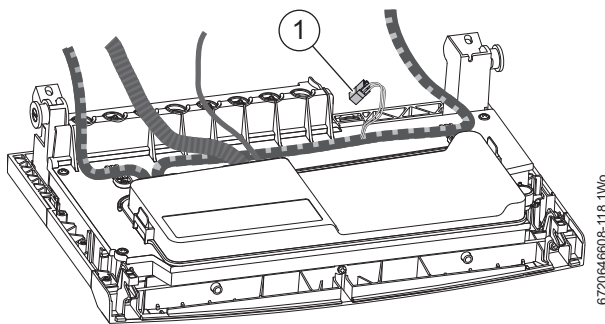

Fig. 27 Unused connector
**i** Refer to Figure 27. The connector (1) in the wiring harness is provided for the installation of the Domestic Hot Water Pre-Heat accessory - 7 716 192 735